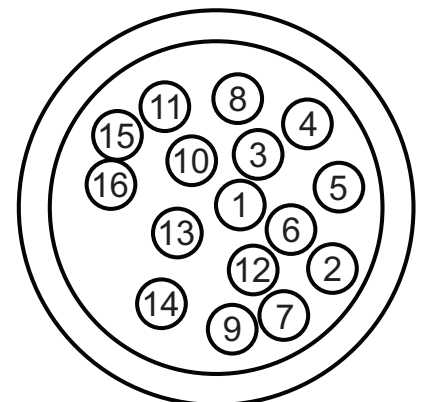

Figure 6
- e) Install the interface board and weld all terminals as shown in figure 6.